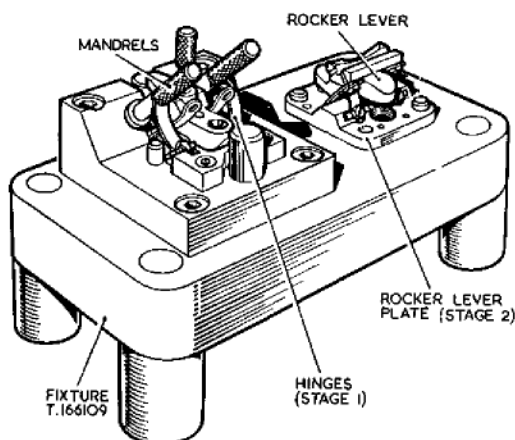

Fig. 3. Fitting the rocker lever to the rocker lever plate
12. Invert the rocker lever and locate with the centre mandrel on the fixture T 166109 as shown in fig. 3 stage 1. Locate the two inner torsion hinges to the fixture, using mandrels, and secure the free ends of the hinges to the rocker lever with tabwashers and screws. The screws should be finger-tight only at this stage.
14. Locate the rocker lever plate on the fixture dowels as shown in fig. 3 stage 2. Assemble the rocker lever and hinges to the rocker lever plate and secure finger-tight with the tabwashers and screws.